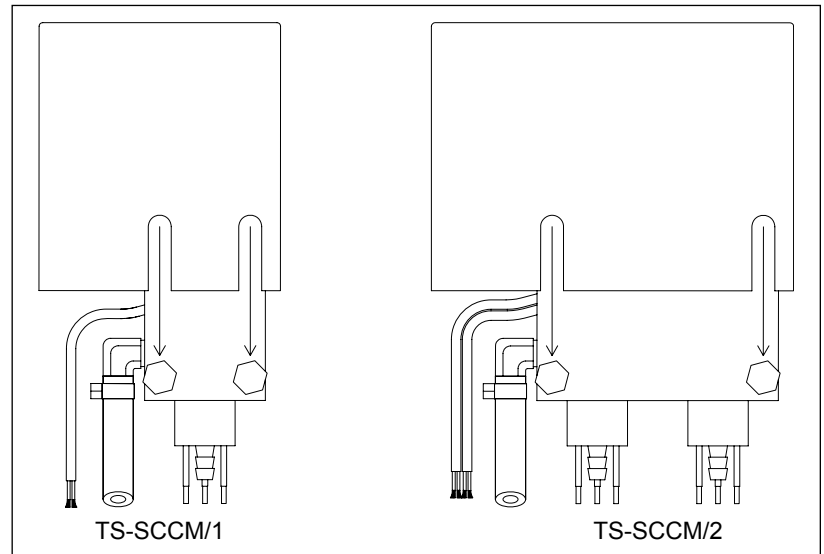

Figure 3 – Cover Installation (rear view)
1. Pull all wiring through the conduits that will be used for the TS-SCCM vacuum sensor and solenoid valve. The intrinsically safe (IS) sensor wiring must be run in an IS conduit. The non-IS solenoid wiring must be run in an approved explosion proof rigid metal conduit.
2. Mount the TS-SCCM inside of the turbine containment area, supported by rigid, explosion proof conduit. Then orientate the units to allow enough clearance to make the vacuum line connections without stretching, kinking, or creating sharp bends in vacuum hoses. The SCCM cover is installed with the label upwards. See Figure 3.